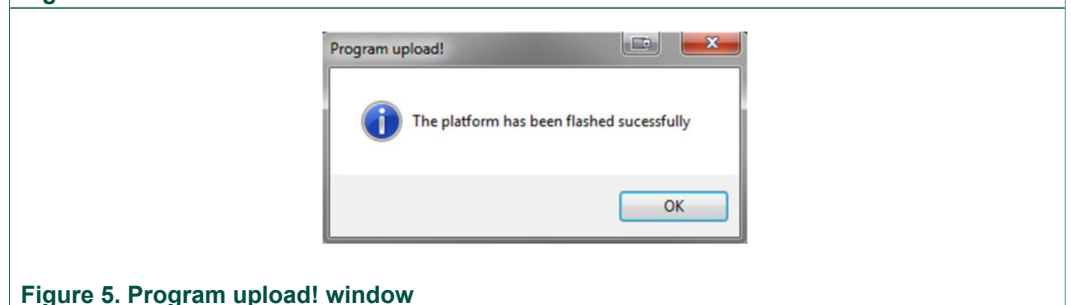

Figure 5. Program upload! window
5. When the board is flashed and ready, and a confirmation dialog box appears, click **OK**. See Figure 5.